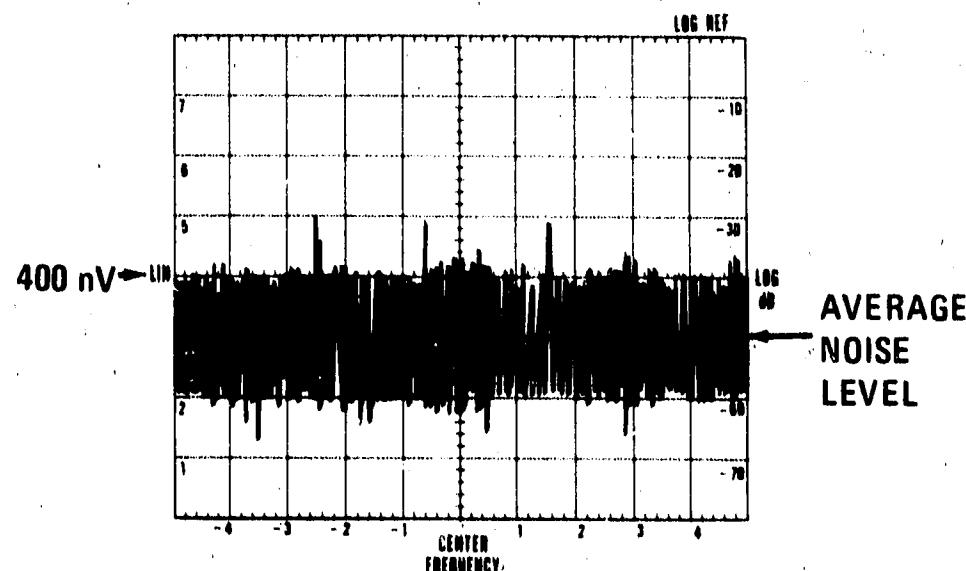

Figure 4-5. Average Noise Level Display
*Average* noise level is read at the mid-point of the noise on the CRT display (see Figure 4-5).